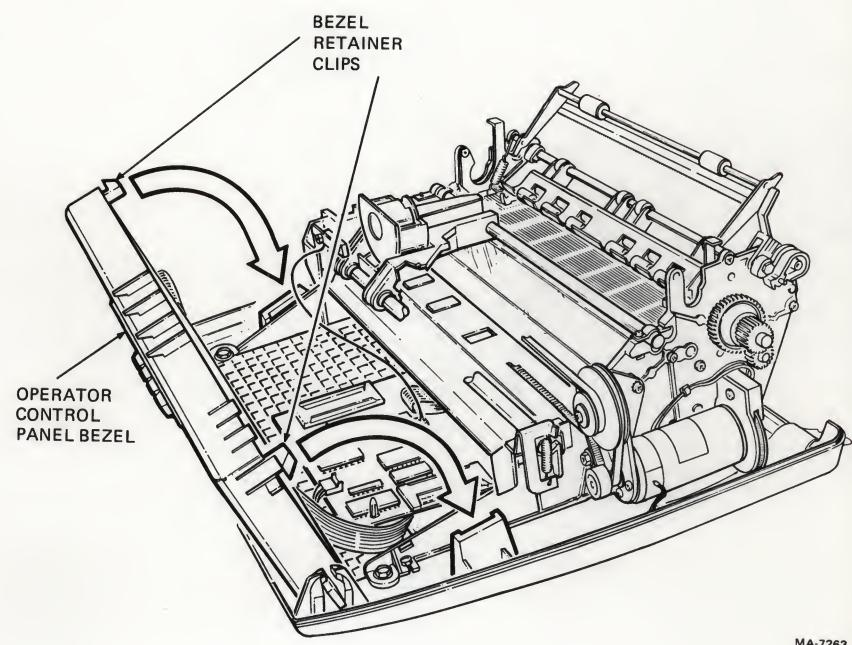

Figure 8-7 Operator Control Panel Bezel
7. Press the bezel retainer clips and rotate the bezel towards the front of the terminal (Figure 8-7).